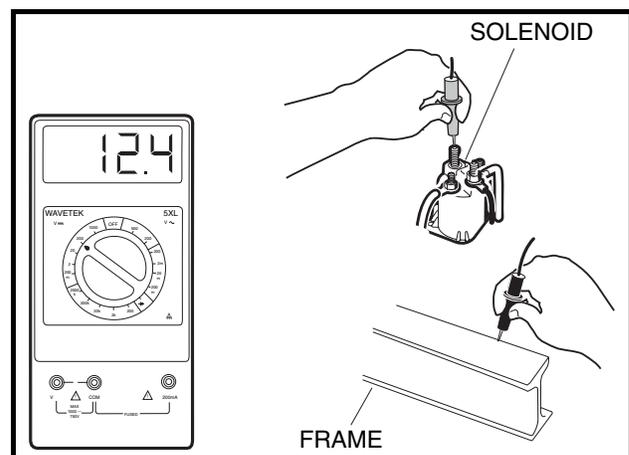

**Figure 11-15 Solenoid Wire Removal**
4. Remove the 10-gauge white wire (crimped with a 16-gauge red wire) from the large post of the solenoid. Do not allow the wires to touch the frame or other components of the vehicle (**Figure 11-15, Page 11-19**).